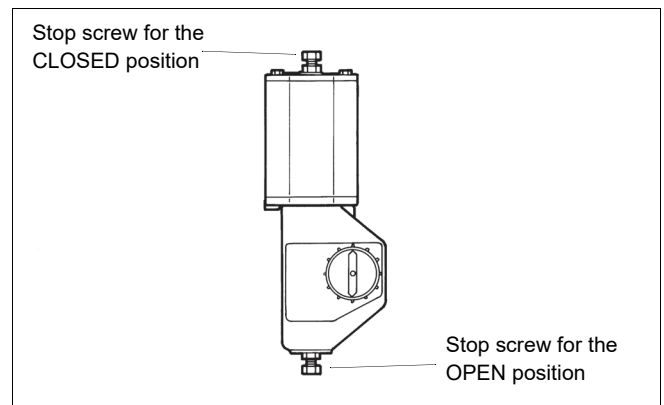

Fig. 38 Open and closed positions of a B1 actuator
- Drive the actuator piston to the extreme outward position and turn the valve into the closed position, see Fig. 38.
- Adjust the segment open and closed positions (limits to piston movement) by means of the actuator stop screws, see Fig. 38. The correct opening angle is 90°, for the R2_S valve 70°. The accurate position can be seen in the flow port. Check that the yellow arrow indicates the position of the segment.